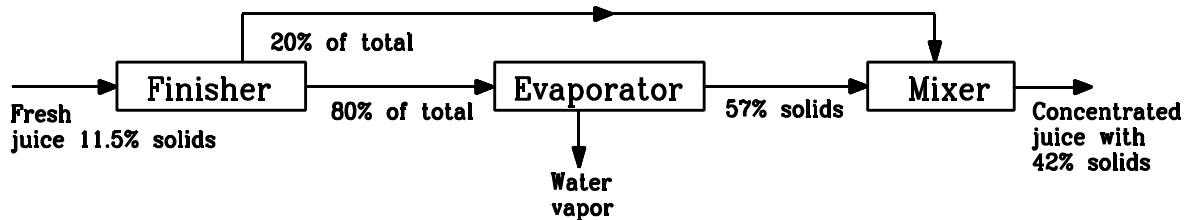

Fig. 2.3 Schematic for Problem 2.9.
2. Orange juice extract containing 11.5% solids is being separated into pulpy juice (20% by weight) and strained juice using a finisher. The strained juice is concentrated to 57% total solids by passing through a vacuum evaporator. The pulpy juice is mixed with the concentrated juice to achieve the desired solids concentration of 42% (Fig. 2.3). Calculate (i) the concentration of solids in (a) pulpy juice and (b) strained juice and (ii) the mass of water evaporated per kg of extracted juice.